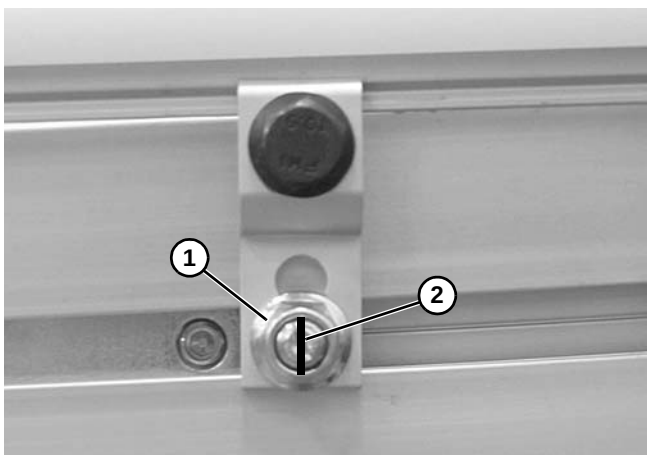

Figure 38
3. Tighten nuts (**Figure 38, item 1**).
*Be certain that slot (**Figure 38, item 2**) is close to vertical when finished tightening nut.*